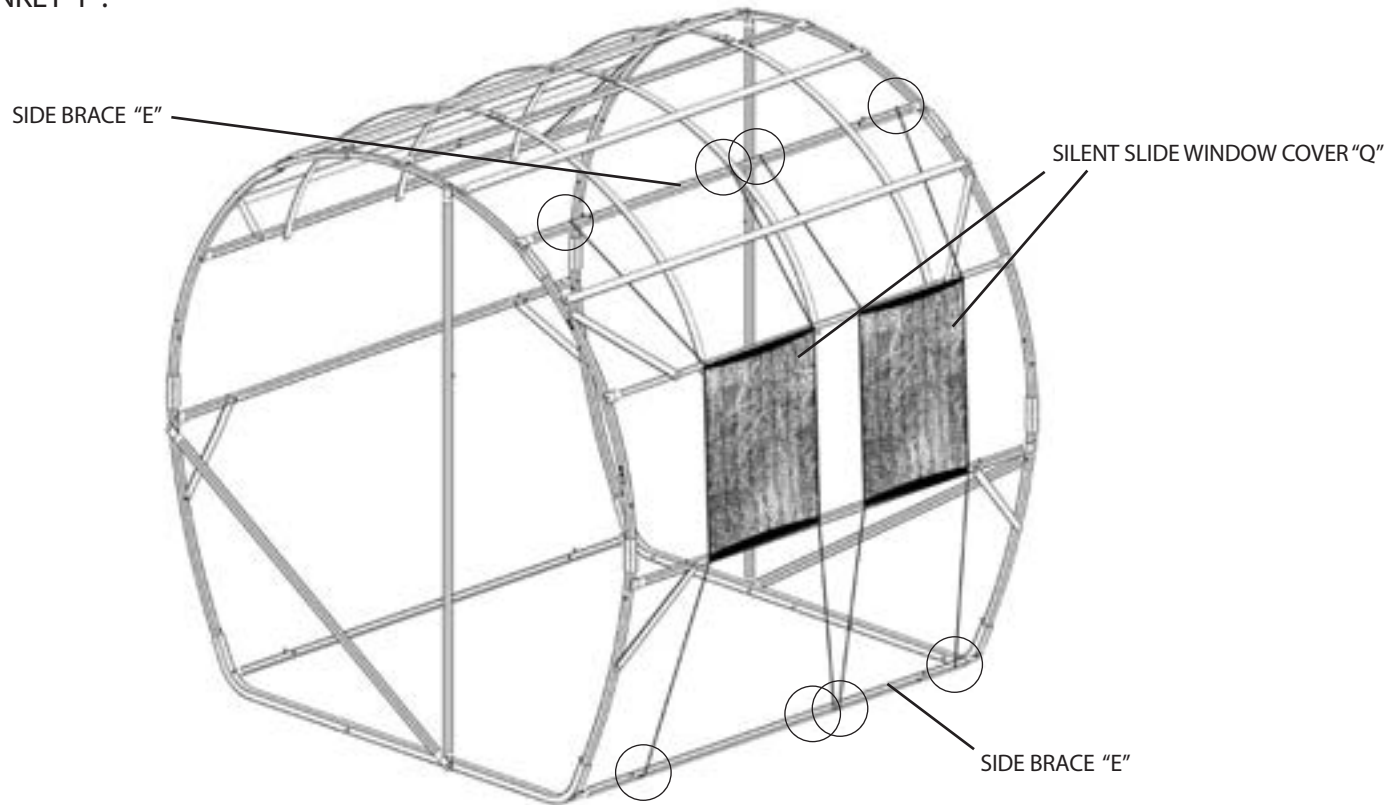

Figure 33.1
STEP 25: Locate the remaining (3) SILENT SLIDE WINDOW COVERS "Q" to be installed for the shooting window openings located on COVER BLANKET "P". Starting at the top, attach each clip to the SIDE BRACE "E", then repeat the process for the bottom clips, attaching to the bottom SIDE BRACE "E" located on the base of the frame, as illustrated in Figure 33.1. Perform this step for the remaining (3) SILENT SLIDE WINDOW COVERS "Q" to be installed for the window openings on the COVER BLANKET "P".